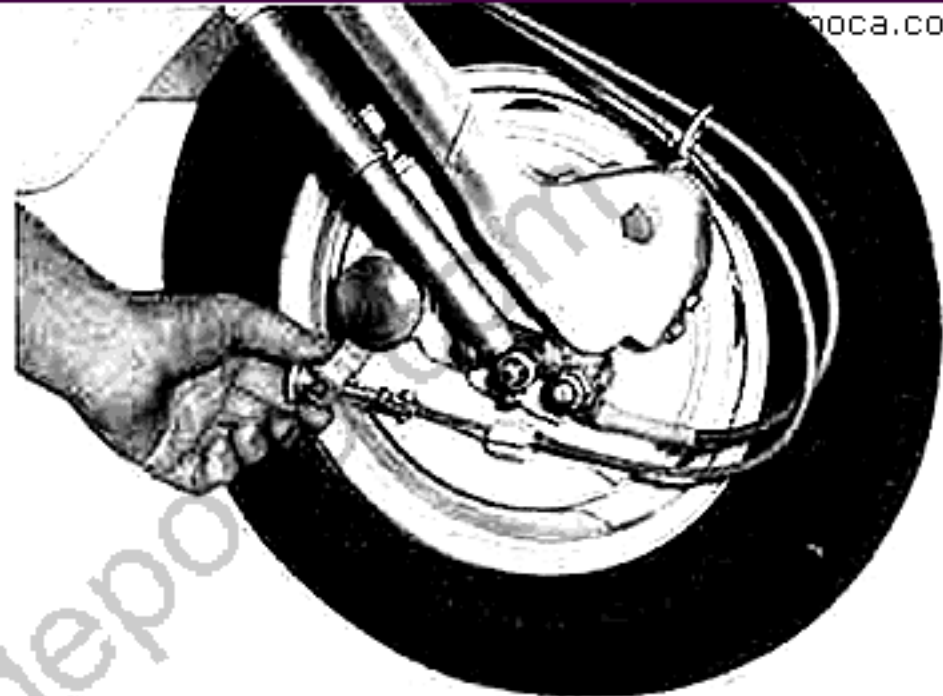

Fig. 10
- lift saddle forward and open lid on frame rib. (see fig. 10).
Ensure that the brakes are kept regularly adjusted so that the wheel is completely free to rotate, but the braking effect begins immediately the lever or pedal is used. Adjustment is carried out by means of two adjusters (see fig. 10 and 11).